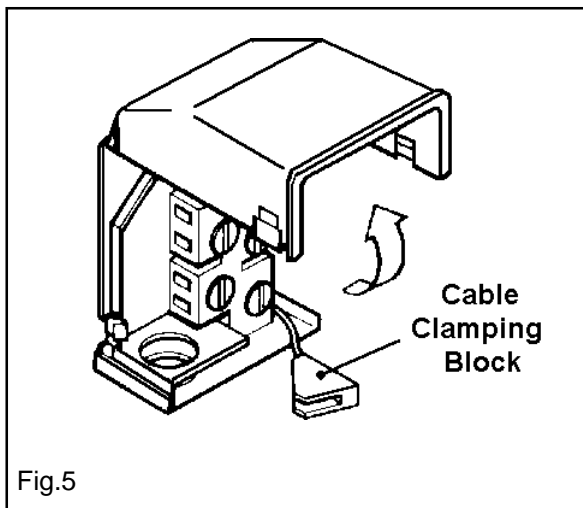

Fig.5
- Lift cover and remove screw from cable clamp. See Fig. 5.